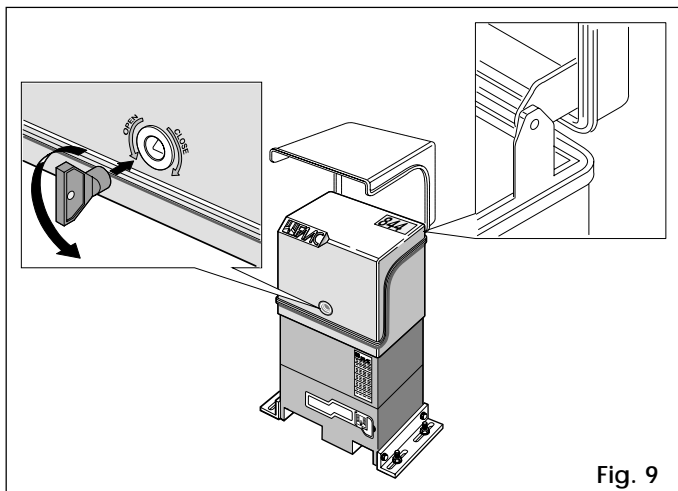

Fig. 9
- 2) Open the cover of the operator using the triangular key supplied (Fig. 9).